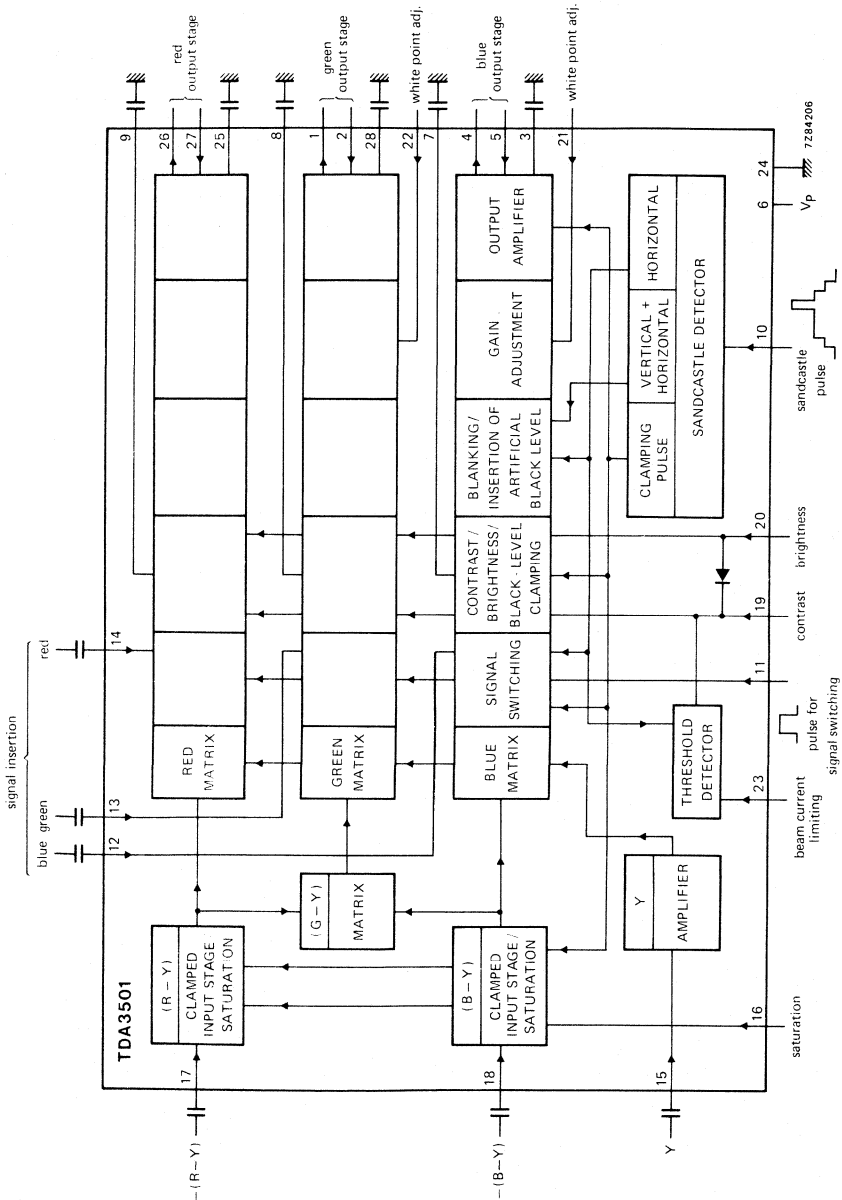

Fig. 1 Block diagram.
* During the clamping time (see sandcastle detector Fig. 1), the inserted RGB signals are clamped to the same black level as the internal RGB signals. For proper clamping, the internal resistance of the external signal sources should be $< 200 \Omega$.